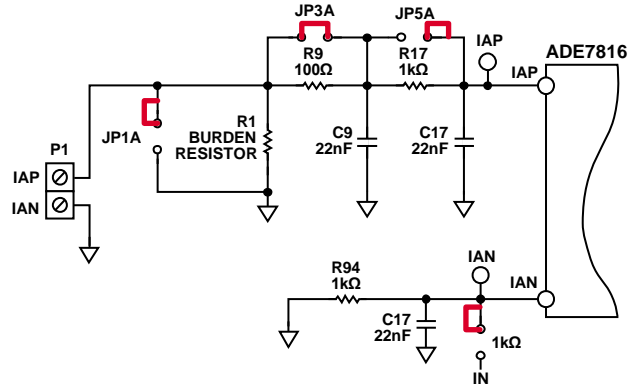

Figure 3. Typical Current Channel A Configuration with a CT
The **ADE7816** includes six single-ended current channels that can be interfaced with either a current transformer (CT) or a Rogowski coil. Apply the sensor output for Current Channel A to P1. Similar to the voltage channel, all current inputs have a maximum input of 0.5 V peak. Figure 3 shows a typical configuration for Current Channel A when a CT is being used.